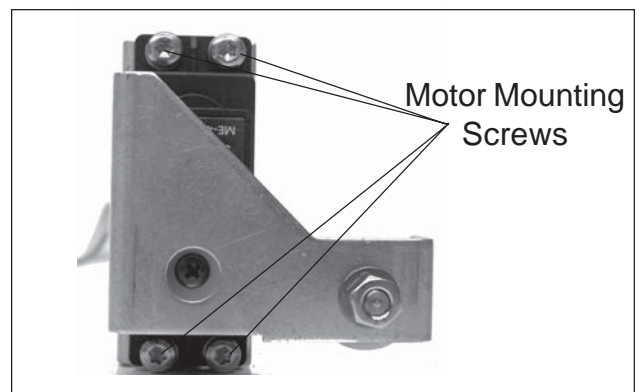

Figure 3-14. Motor Mounting Screws Location.
1. Refer to Figure 3-14 and remove the 4 motor mounting screws.